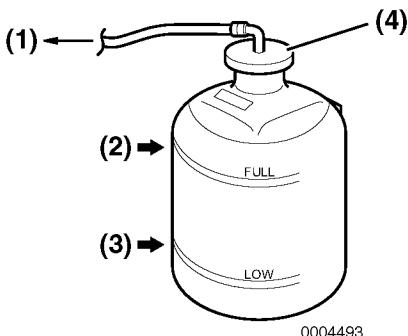

Figure 19
6. Remove reservoir cap (**Figure 19, (4)**) to add coolant if necessary. Do not add water.
8. Check the rubber hose (**Figure 19, (1)**) connecting the reservoir to reservoir / heat exchanger. Replace if damaged.
5. Check the coolant level in the reservoir. The level should be at the FULL mark (**Figure 19, (2)**). Add coolant if necessary.